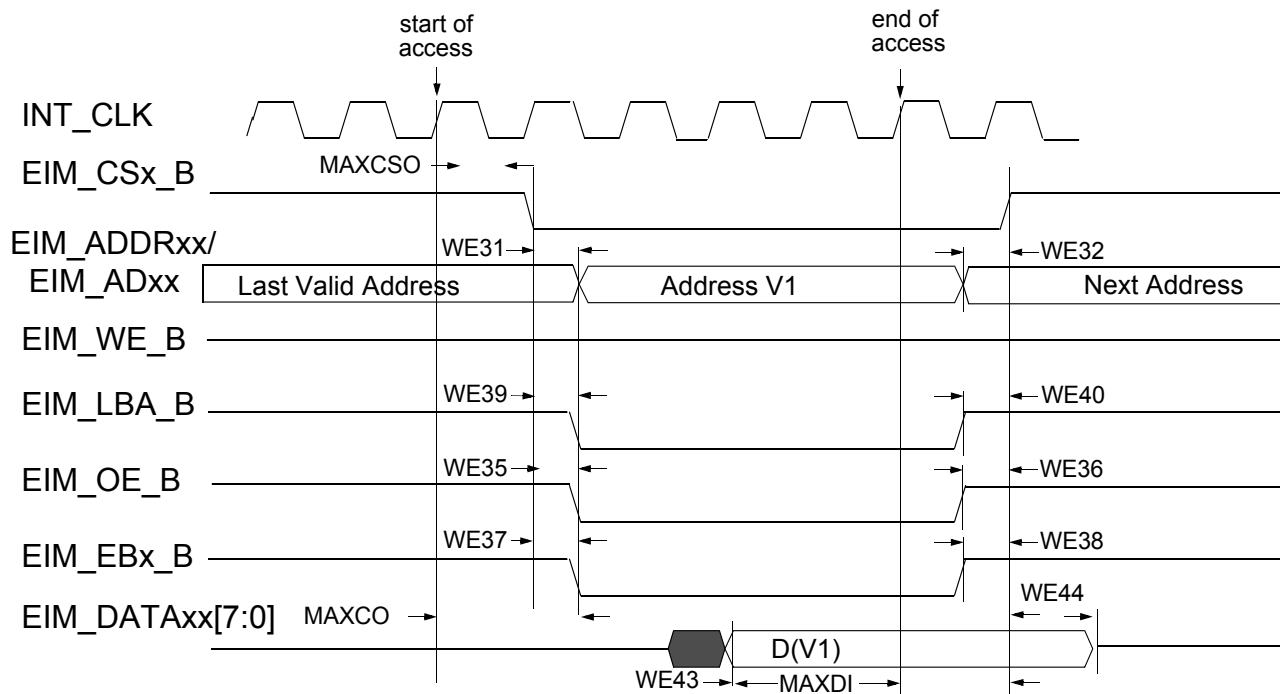

Figure 15. Asynchronous Memory Read Access (RWSC = 5)
Figure 15 through Figure 19, and Table 40 help to determine timing parameters relative to the chip select (CS) state for asynchronous and DTACK EIM accesses with corresponding EIM bit fields and the timing parameters mentioned above.
Asynchronous read & write access length in cycles may vary from what is shown in Figure 15 through Figure 18 as RWSC, OEN and CSN is configured differently. See the *i.MX 6UltraLite Reference Manual (IMX6ULRM)* for the EIM programming model.